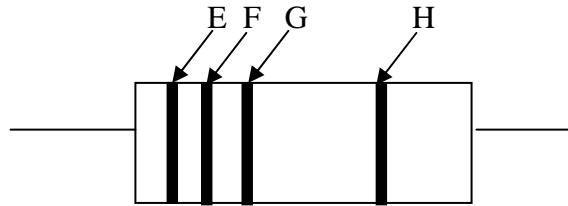

FIGURE 12
24. Figure 12 shows a resistor with a resistance value of $56 \text{ k}\Omega \pm 10\%$.